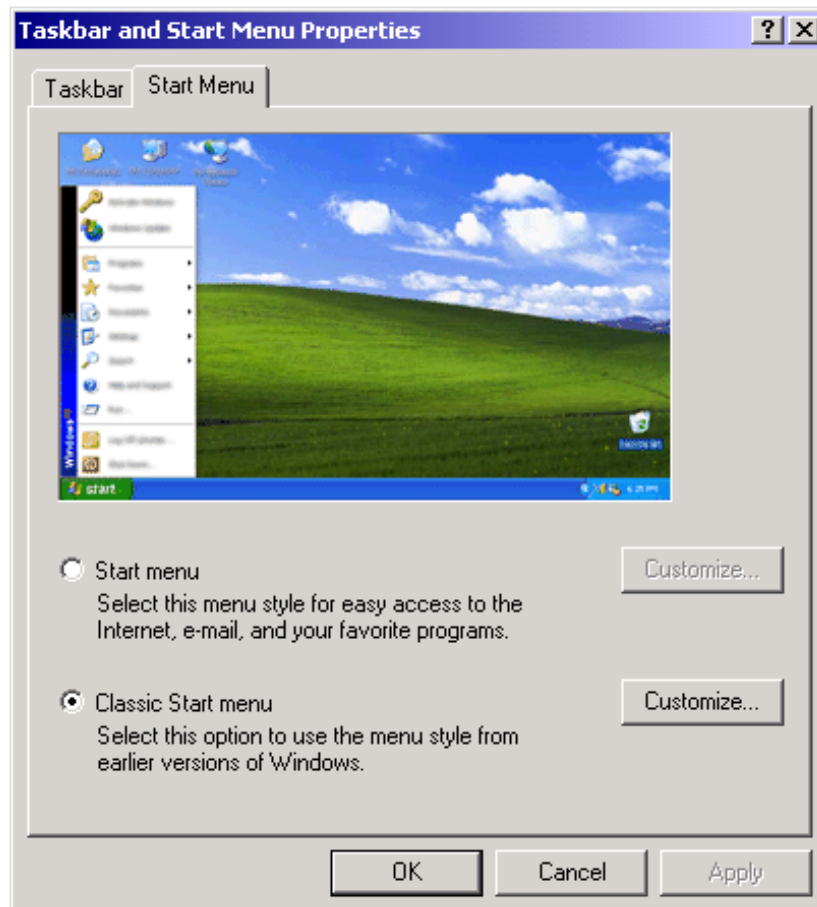

FIGURE 122. Classic Start menu
8. Select the Classic Start menu as shown in Figure 122.